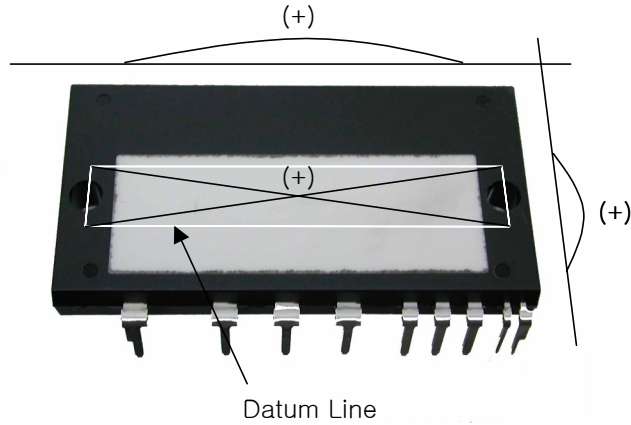

**Fig. 6.  $R_{sc}$  Variation by change of Shunt Resistors ( $R_{SU}, R_{SV}, R_{SW}$ ) for Short-Circuit Protection**
- Short-circuit current protection is functioning only at the low-sides. It would be recommended that the value of the external sensing resistor (RSC) should be selected around 56 Ω in order to make the SC trip-level of about 22.5A at the shunt resistors (RSU, RSV, RSW) of 0Ω. For the detailed information about the relationship between the external sensing resistor (RSC) and the shunt resistors (RSU, RSV, RSW), please see Fig. 6.